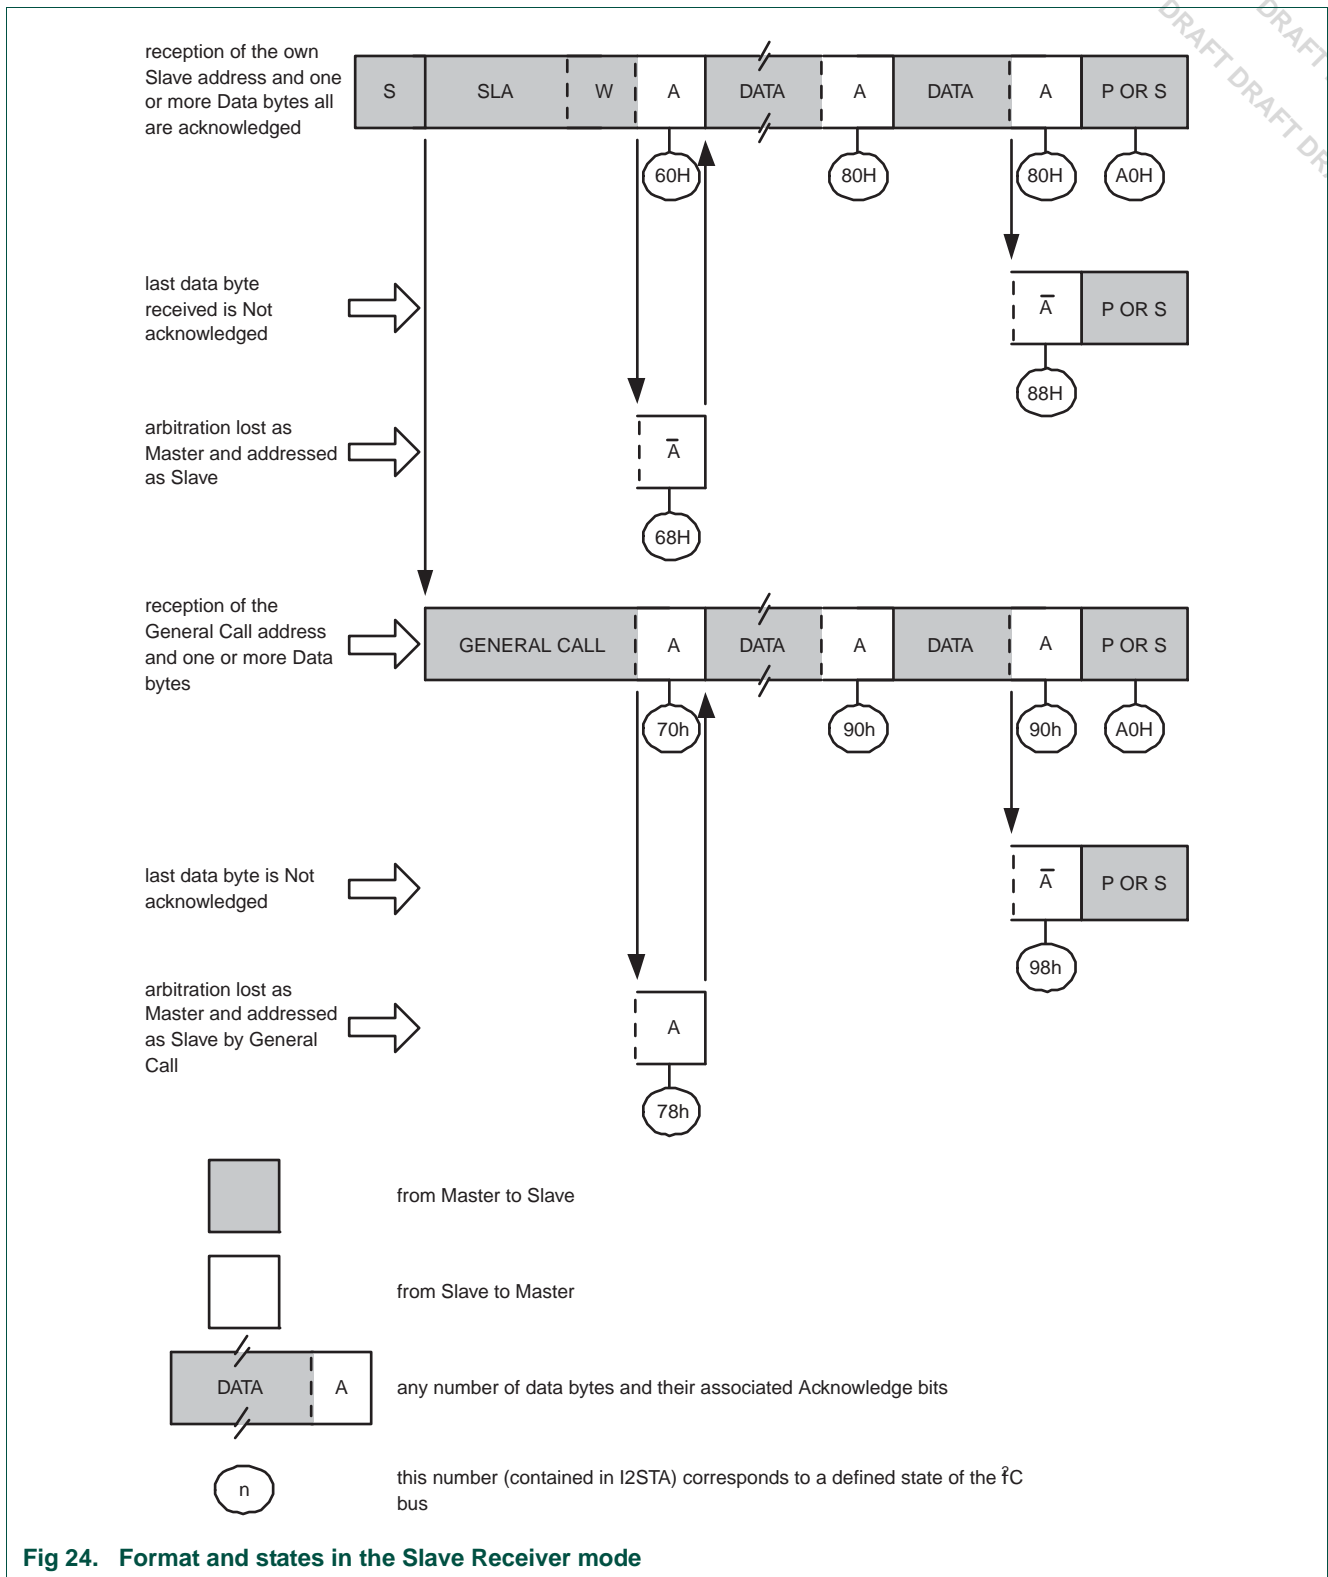
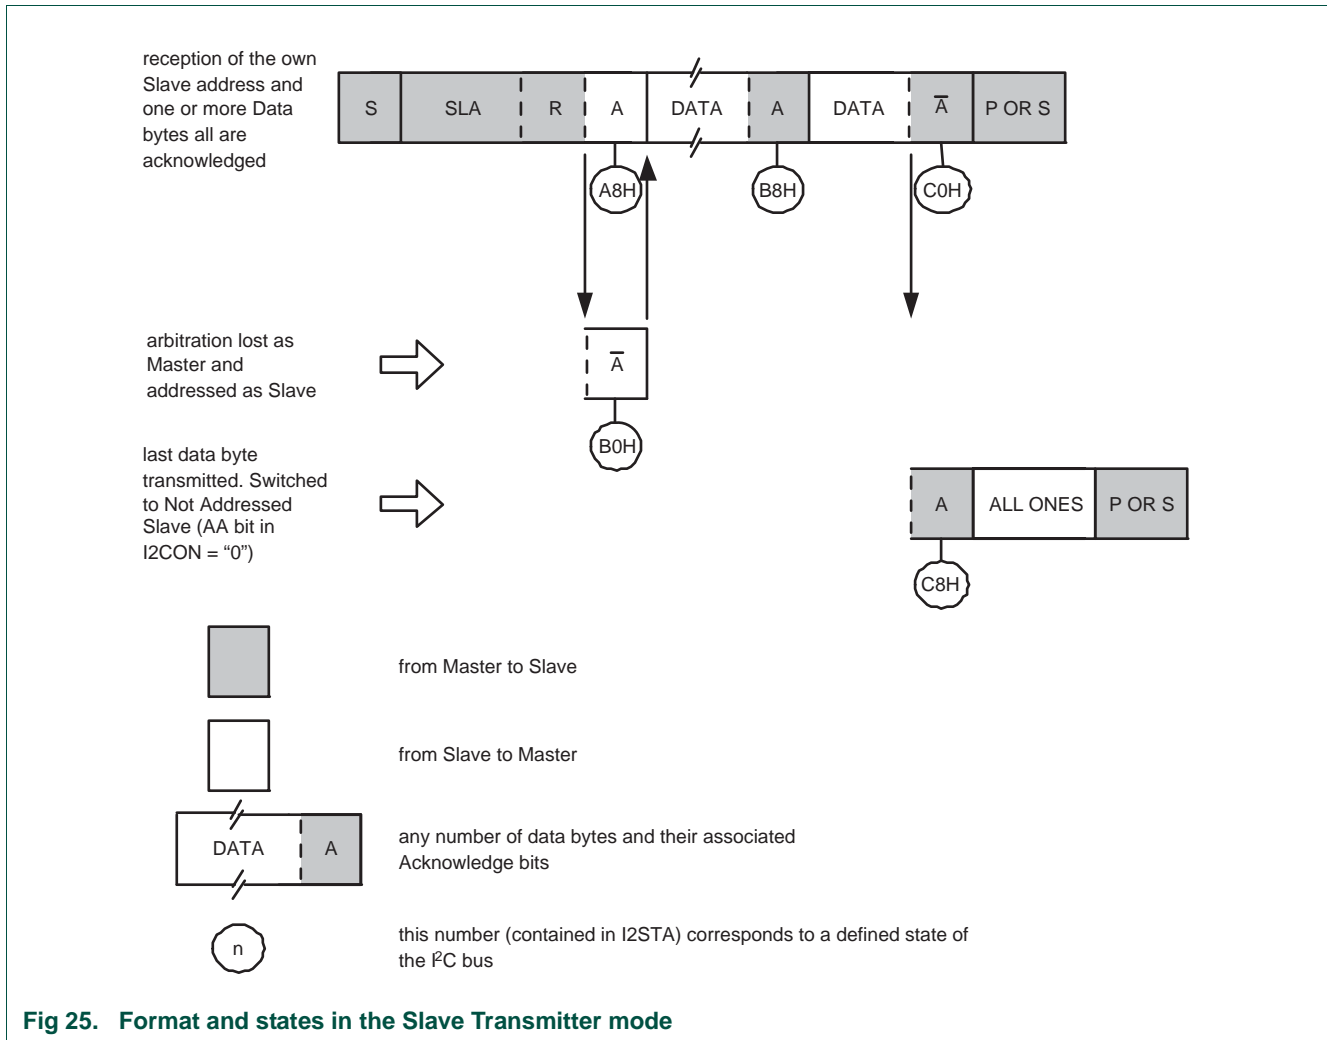

Fig 24. Format and states in the Slave Receiver mode
Fig 25. Format and states in the Slave Transmitter mode
Data transfers in each mode of operation are shown in Figure 22, Figure 23, Figure 24, Figure 25, and Figure 26. Table 196 lists abbreviations used in these figures when describing the I²C operating modes.
In the slave receiver mode, a number of data bytes are received from a master transmitter (see Figure 24). To initiate the slave receiver mode, CON register, the ADR registers, and the MASK registers must be configured.
In the slave transmitter mode, a number of data bytes are transmitted to a master receiver (see Figure 25). Data transfer is initialized as in the slave receiver mode. When ADR and CON have been initialized, the I²C block waits until it is addressed by its own slave address followed by the data direction bit which must be "1" (R) for the I²C block to operate in the slave transmitter mode. After its own slave address and the R bit have been received, the serial interrupt flag (SI) is set and a valid status code can be read from STAT. This status code is used to vector to a state service routine, and the appropriate action to be taken for each of these status codes is detailed in Table 202. The slave transmitter mode may also be entered if arbitration is lost while the I²C block is in the master mode (see state 0xB0).